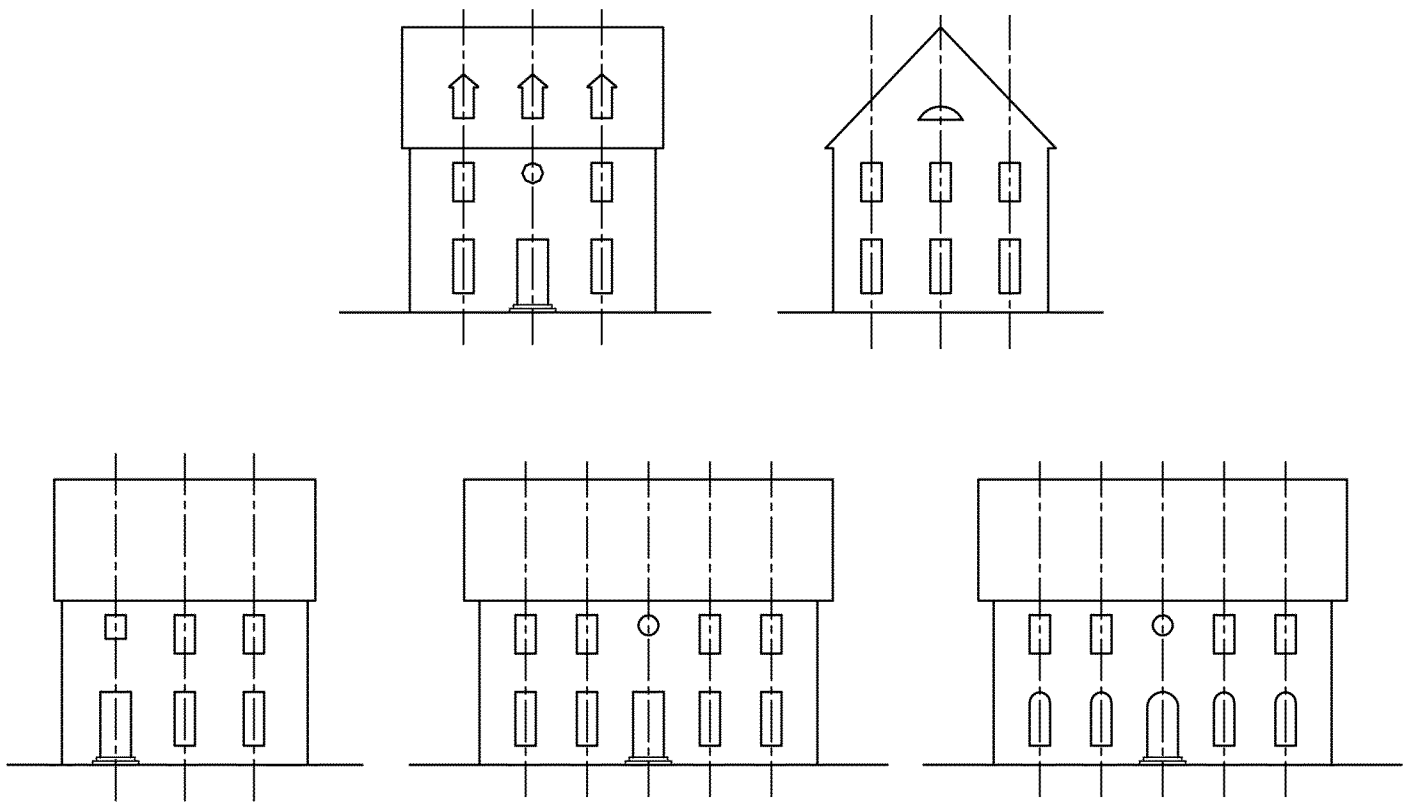

Figure 20
- » Windows shall align vertically within any given façade, unless approved otherwise on non-frontage side and rear elevations by the Village. See Figure 20.
- » One window on each frontage elevation may be circular, semi-circular, hexagonal, or octagonal in shape. Windows may be quarter-circular in shape when paired in a gable end. See Figure 20.